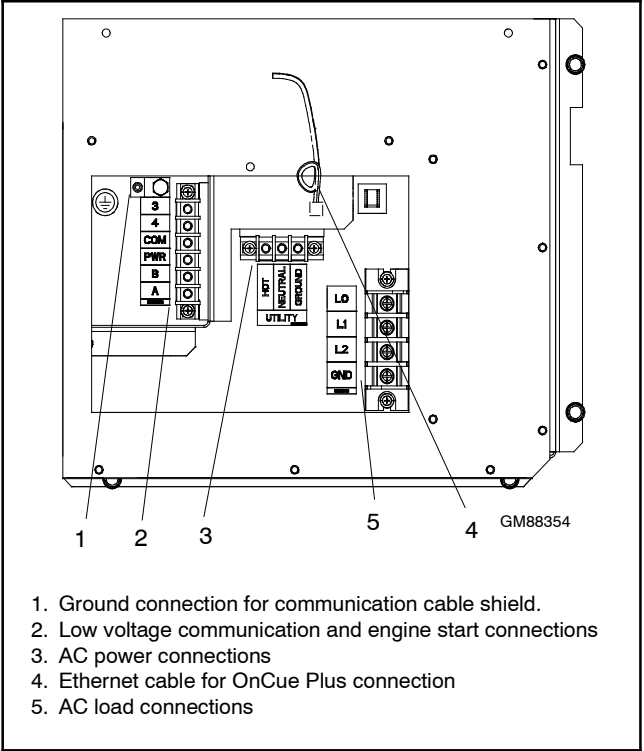

Figure 1-22 Electrical Connections
See Figure 1-22 for terminal block details. Refer to the terminal block decal for connections and cable sizes. Also see the wiring diagram in Section 3.
- (1) Turn OFF any wireless connections to the laptop.
- (2) Connect the network cable to the laptop. Connect the other end of the network cable to the customer's router or modem.
- (3) Verify the Internet connection by opening your web browser and going to www.kohlerpower.com or any known website.
- (4) Disconnect the network cable from the laptop.
- c. Use an RJ45 inline coupler to connect the Ethernet cable to the cable in the customer connection box. See Figure 1-22. The inline coupler is included with the OnCue Plus kit.